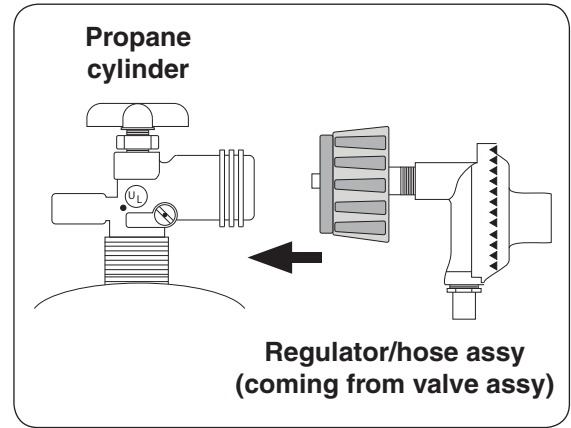

Fig. 16-1 Connecting to an L.P. cylinder
2. Attach the regulator end of the hose assembly to a propane cylinder (not included) and tighten (see Fig. 16-1).